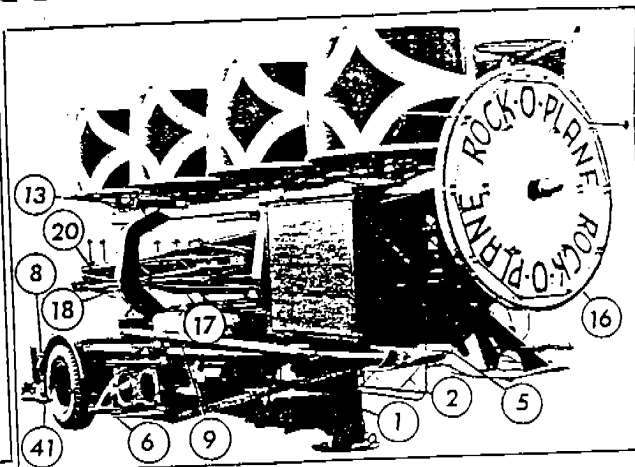
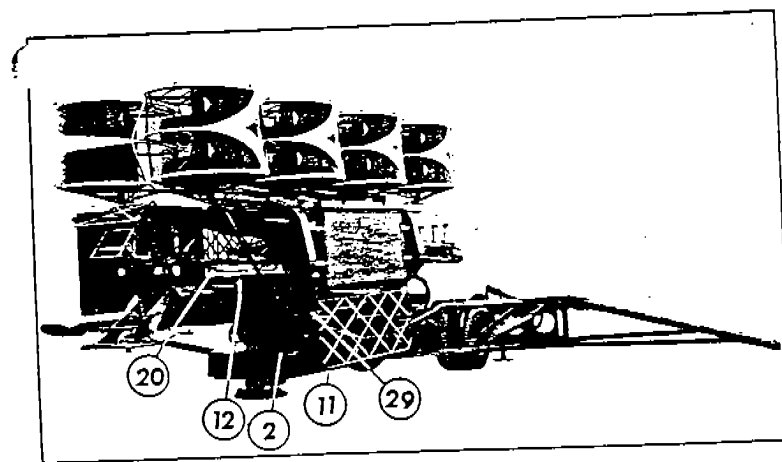

FIG. 3
FIG. 2
- (1) Place ride on desired location according to set-up and ground plan.
- (2) Remove splash board by removing the two safety pins from the upper right and left corners and from the attachment at the bottom which is secured to the front leveling cylinder (1) Fig. 3. CAUTION: BE SURE VALVE CONTROL LEVERS ARE IN NEUTRAL POSITION.
- (3) Check to see that the pump belt is on and then start engine.
- (4) Move front valve lever (2) Fig. 2 & 3 down to raise front of ride and remove truck. You are now ready to assemble the ride.
- (6) To assemble the two rear sills, remove safety chain (5) Fig. 3 and small hair pins, located on each side of fifth wheel, and remove gate transport pins (6) Fig. 3, located on each side about 3 feet in front of rear wheels. Pull gates out to about a 60 degree angle. By moving outer rear hydraulic levers (7) Fig. 1 forward, raise sills from transporting pin and swing them around until gate ears line up with ears (8) Fig. 3 on back of ride. Pin and secure. Remove mud sill brace tube (9) Fig. 1 & 3 from transport position and place in slotted ear (10) Fig. 1 located at lower gate ear. Place chain attached wedge in slot just behind slotted ear. CAUTION: DO NOT DRIVE WEDGE INTO SLOT UNTIL RIDE HAS BEEN LEVELED.
- (7) Remove fence sections (11) Fig. 2 from transport position and stack about 15 Ft. from ride. Remove platforms, platform ramps and ramp fence from back of ride and remove all parts, loose tools and other objects from inside of column.
- (8) At this stage, the cars may be lowered, provided all obstacles which damage the cars as they are lowered, have been removed from the area. Remove the column pin located on top of front leveling cylinder. Next, remove the two 3/4" pins (12) Fig. 2 attaching the bunkers to the column. Located on the engine side, between the two rear cars, is the over-center bunker lock (13) Fig. 3. Remove the safety pin and use the pipe lever supplied to pull handle out and up until lock is out of the slot in the middle. NOTE: MAKE SURE HANDLE STAYS IN UPRIGHT POSITION OR IT WILL RELOCK. Raise the column very slowly by depressing the center rear valve lever (14) Fig. 1 to lower the cars. When the cars reach the lowest position and stop, raise the column another six inches. Located behind the front leveling cylinder is the car bunker raising linkage (15) Fig. 1 To release this linkage, remove the two 1" pins and let it hang loose between the base channels. Lower the column back to the base.